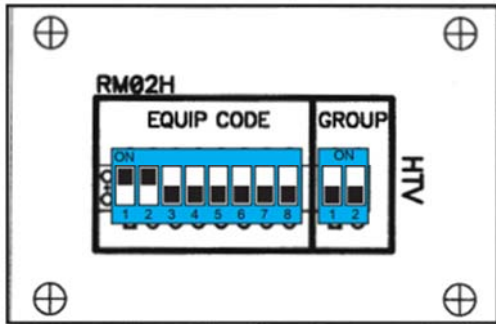

Figure 21 – SHACKLE EQUIP CODE
2. Configure the *EQUIP CODE* using a combination of positions that must coincide with the combination used with the remote control (Figure 21 – SHACKLE EQUIP CODE).